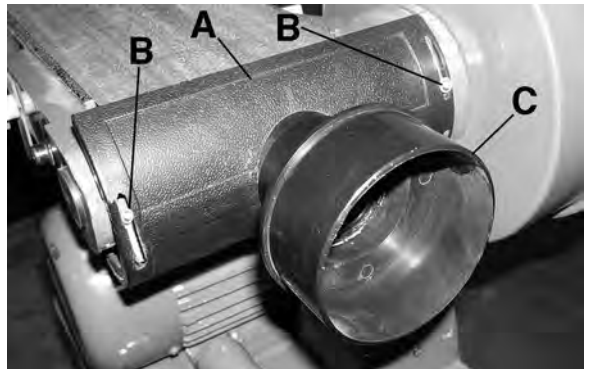

Figure 14
1. Undo the 2 pan hd screws (B) from the belt casting and position the belt dust chute (A) Fig.14 as shown and fasten it to the belt casting using the 2 pan hd screws removed previously.
2. If you desire to connect this sander to dust collection system which uses a 4" flex hose, install the supplied 2-1/2" to 4" dust chute adaptor (C) as shown in Fig.14.